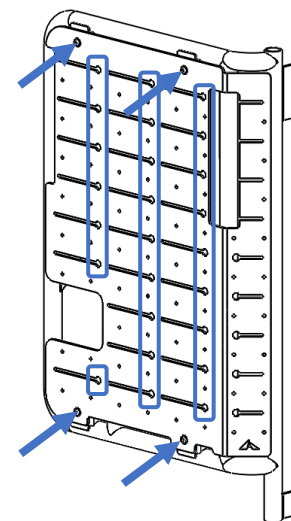

Figure 3: Tray Installation Locations with BackPACK
6. Slide two (2) 3/8" carriage bolts into each bike tray slot.
7. Install the bike rack trays onto the BackPACK using the carriage bolts through the indicated holes on the bike rack or BackPACK (see Figure 3). **NOTE:** The 3/8" bolt can only fit into the large hole at the end of each slot – please use the indicated locations only.
10. With the lower support arm of the bike tray extended to approximately parallel with the ground (as shown in Figure 3), slide the upper support bracket (on the back of the bike tray) up until taught. Tighten the 3/8" hardware to secure upper support bracket in place.